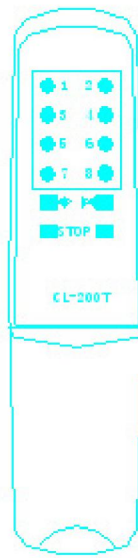

Figure 2
- b. One Remote Control (Figure 2)